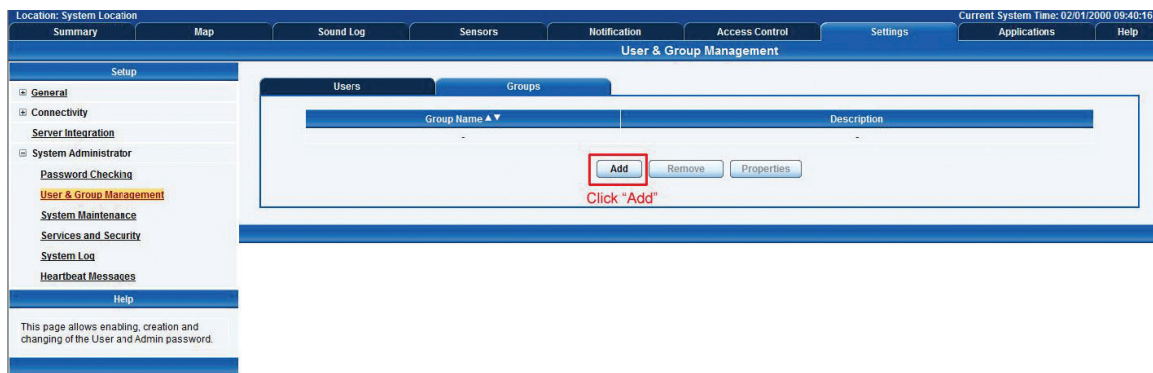

Figure 3-15. Add button.
3. Click on the “Go to Group Setup” link that will take you to the Groups page shown in Figure 3-15.
4. Click on the “Add” button to add your groups as shown in Figure 3-15.